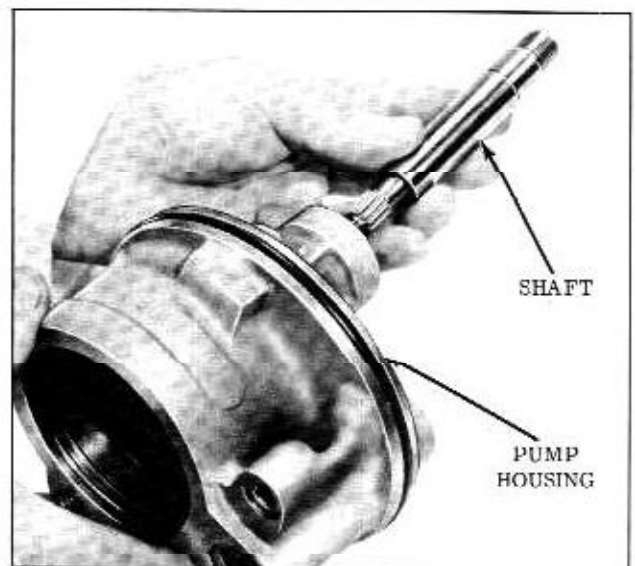

Fig. 4-56 Removing Shaft
12. Remove shaft through front of housing. (Fig. 4-56)